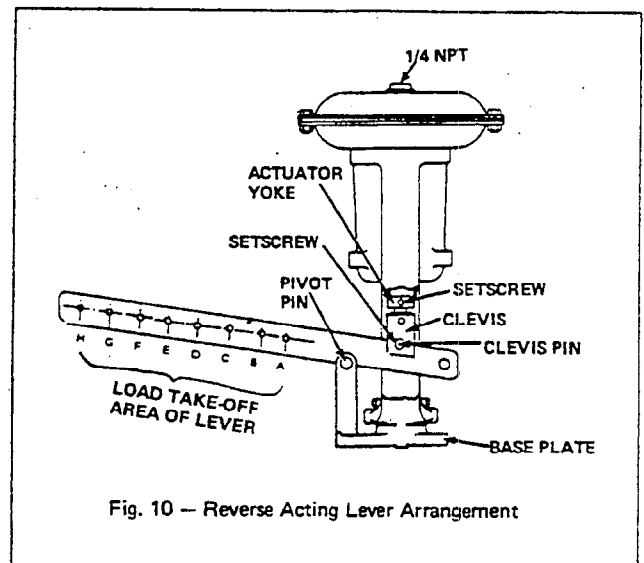

Fig. 10 — Reverse Acting Lever Arrangement
5. Turn lever 180° and place it in clevis so that pivot is between the actuator stem and the load take-off as shown in Fig. 10.